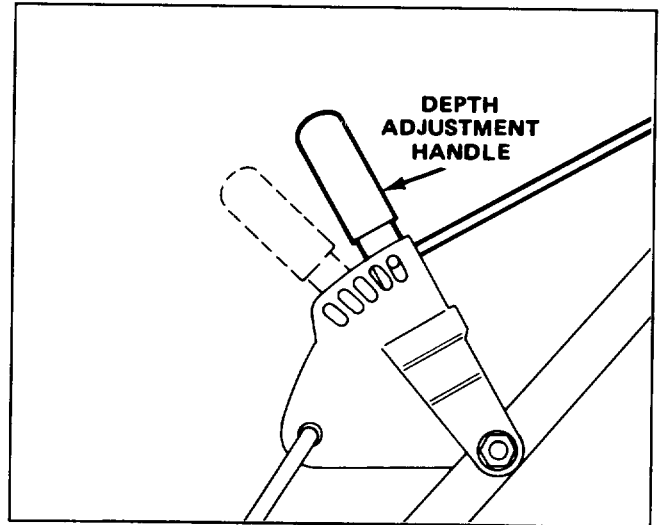

Figure 11
3. ADJUSTING DEPTH (Fig. 11)—Release blade/clutch control rod. Move depth adjustment handle forward to increase blade depth and rearward to decrease blade depth.